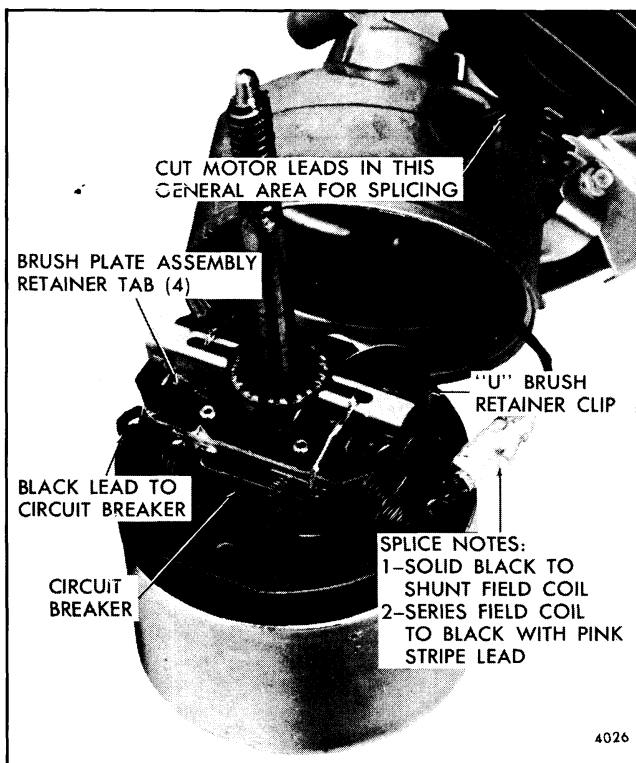

Fig. 2-30-Brush Plate Assembly
f. To check the circuit breaker, disassemble motor section of wiper and visually inspect the circuit breaker for dirty or burned contacts or solder connections to circuit breaker terminals (Fig. 2-30).